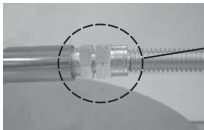

FIG. 11-3
4. Carefully detach the flex connector attached to the orifice holder (see Fig. 11.3) and unscrew the orifice holder from the burner pipe (see Fig. 11.4)
Note: if you are converting to and using natural gas you MUST install the air shutter over burner pipe to cover the air holes (see Fig. 11.4). For propane (L.P.) gas, remove the air shutter. Replace the orifice holder and reattach the connector from the valve (see Fig. 11.3). The regulator must now be converted to the new gas type.